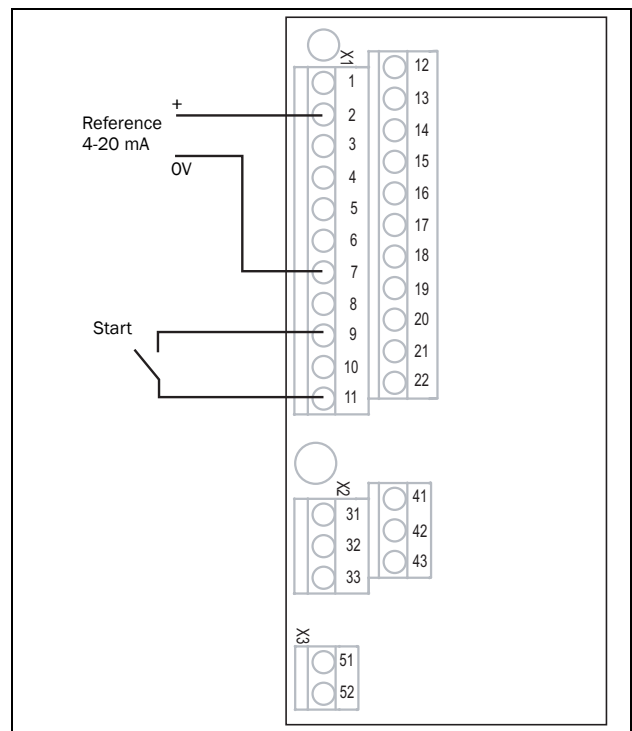

Fig. 56 Wiring
2. Connect a reference value between terminals 7 (Common) and 2 (AnIn 1) as in Fig. 56.
3. Connect an external start button between terminal 11 (+24 VDC) and 9 (DigIn2, RUNR) as in Fig. 56.
15. Connect digital and analogue inputs/outputs as in Fig. 56.